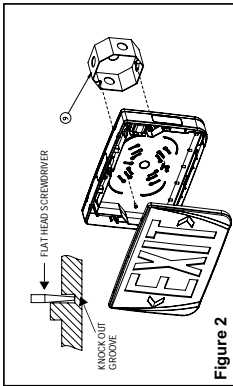

Figure 2
- a. No canopy required. With the help of a flat head screwdriver, knock out the proper hole pattern in the back cover to mount to a standard junction box (See Fig. 2). Feed the AC supply leads out through the center hole and make the proper connections (See step 5 and Fig 6). Feed the excess wire into the junction box and secure the back cover to the junction box using the junction box screws. Proceed to step 6.